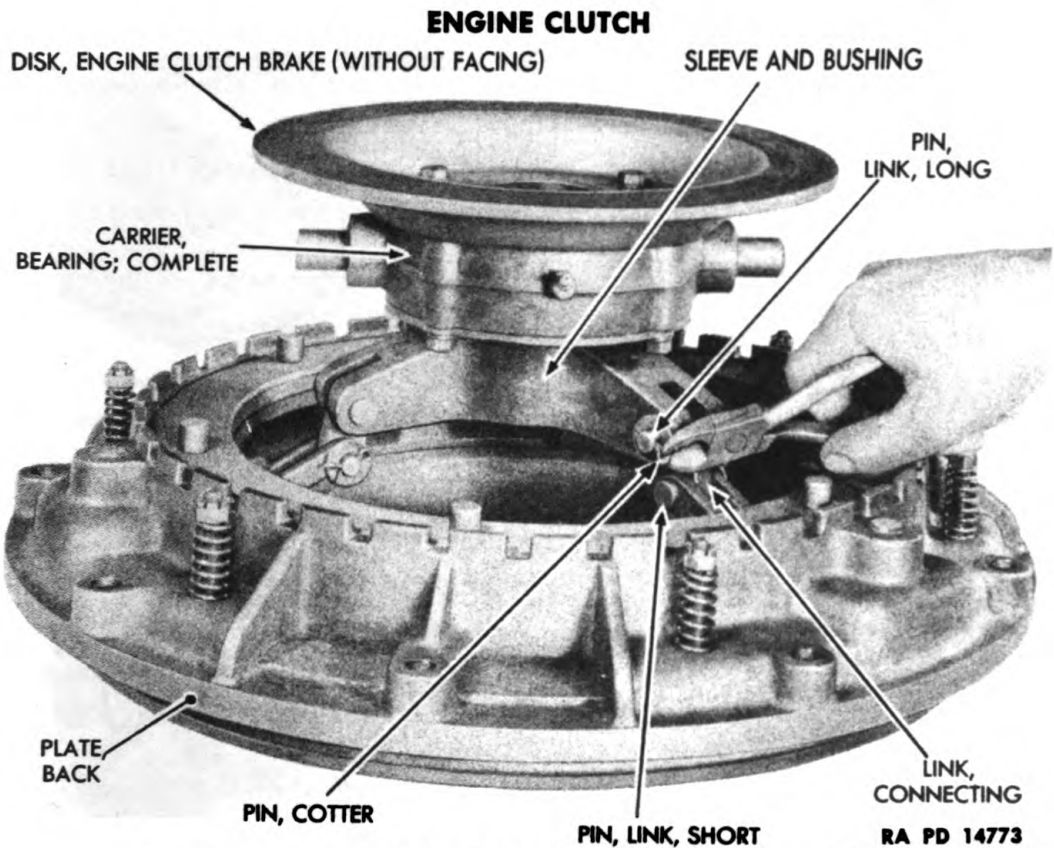

Figure 19 — Engine Clutch Brake Disk, Carrier and Sleeve, and Bushing; Removal
(3) REMOVE BRAKE DISK, BEARING CARRIER AND SLEEVE, AND BUSHING (fig. 19).